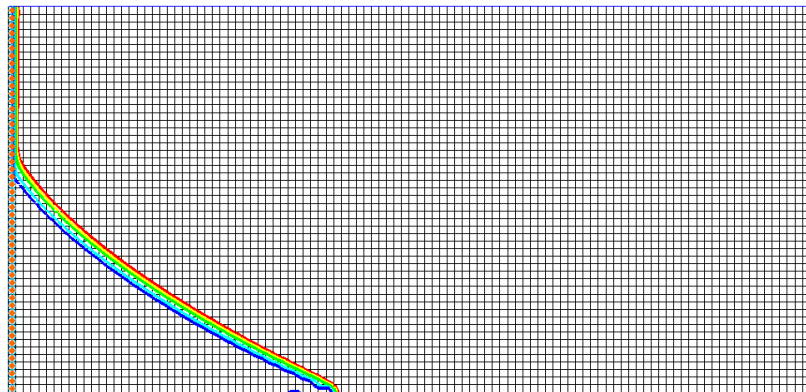

Figure 12 Time step 6 (after 25 minutes)
4. In the *Time Steps* window, select time step 6 (Figure 12).